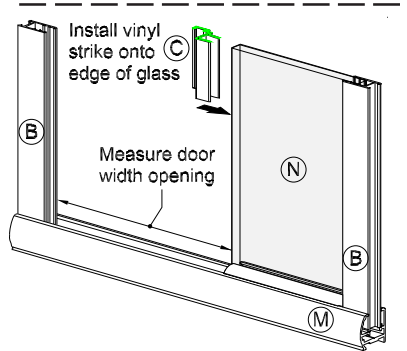

figure 4
6. Measure the door opening width as shown in figure 4 (measurement is taken from edge of Wall Jamb to edge of Glass Panel as shown). Cut Dam Sill (A) to measurement obtained and snap it into Sill (M).
7. Install Vinyl Strike (C) onto the exposed edge of the Glass Panel (N) as shown in figure 4. Make sure that Vinyl Strike is firmly seated all the way onto the Glass Panel. Detail shows short Vinyl Strike piece for clarity purposes.